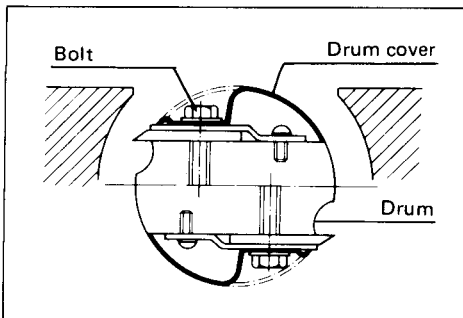
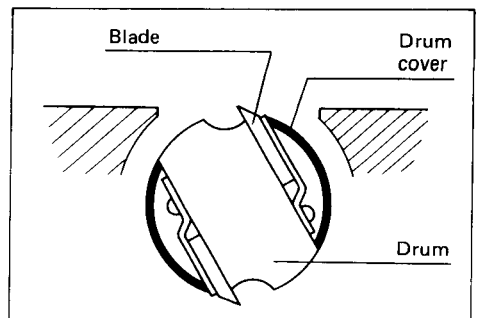

Fig. 17
Fig. 18
- The drum can be locked at the position shown in Fig. 17 or Fig. 18.
- Lock the drum at the position shown in Fig. 17 and loosen the hex bolts with the socket wrench. Remove the hex bolts and the drum cover.
- When removing the blade from the Auto-Planer, lock the drum at the position shown in Fig. 18 and push the blade out with the screwdriver.
- Lock the drum at the position shown in Fig. 18.
- Lock the drum at the position shown in Fig. 17. Mount the drum cover and tighten the hex bolts evenly and alternately.